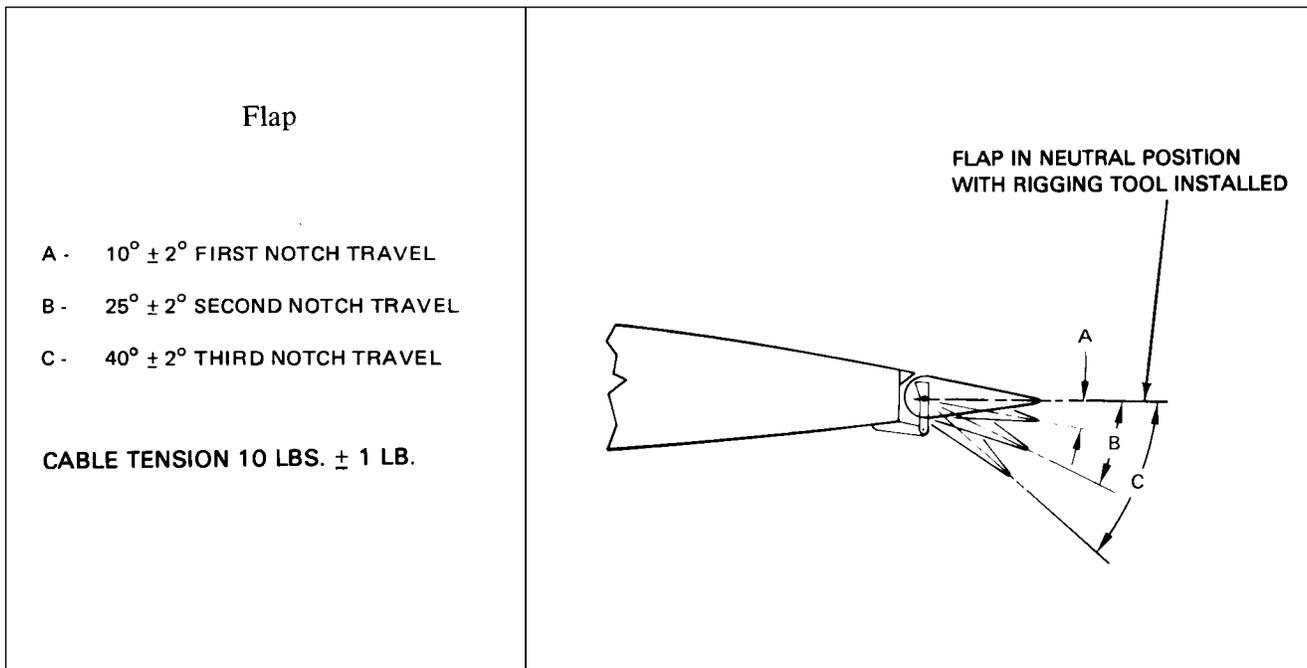

Figure 27-22. Flap Rigging
6. Set the flap control cable tension (handle next to floor, 0 degrees) as given in Figure 27-22 at the turnbuckle that is attached to the lower end of the flap handle in the floor tunnel. To do this and if not previously removed, remove the flap handle cover and enough tunnel carpet to remove the tunnel cover just aft of the handle. Adjust and resafety the turnbuckle.
11. Check the flap for full down travel to the degrees required in Figure 27-22. Should the travel not be as that required, readjust the torque tube stop screw in or out as required. After readjusting the screw, it will be necessary to review Steps 4 through 10.